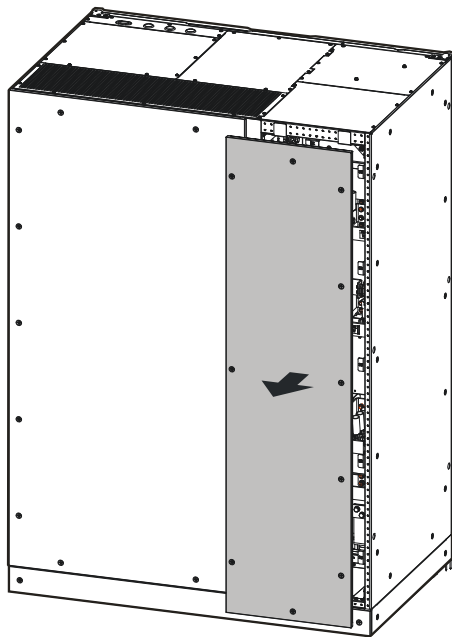

Figure3-26 Dismantle wiring cover plates of PS500KVA、PS600KVA
- Step 1 Use the cross screwdriver to remove the screws from the wiring block, and dismantle wiring cover plates, as shown in Figure3-26.